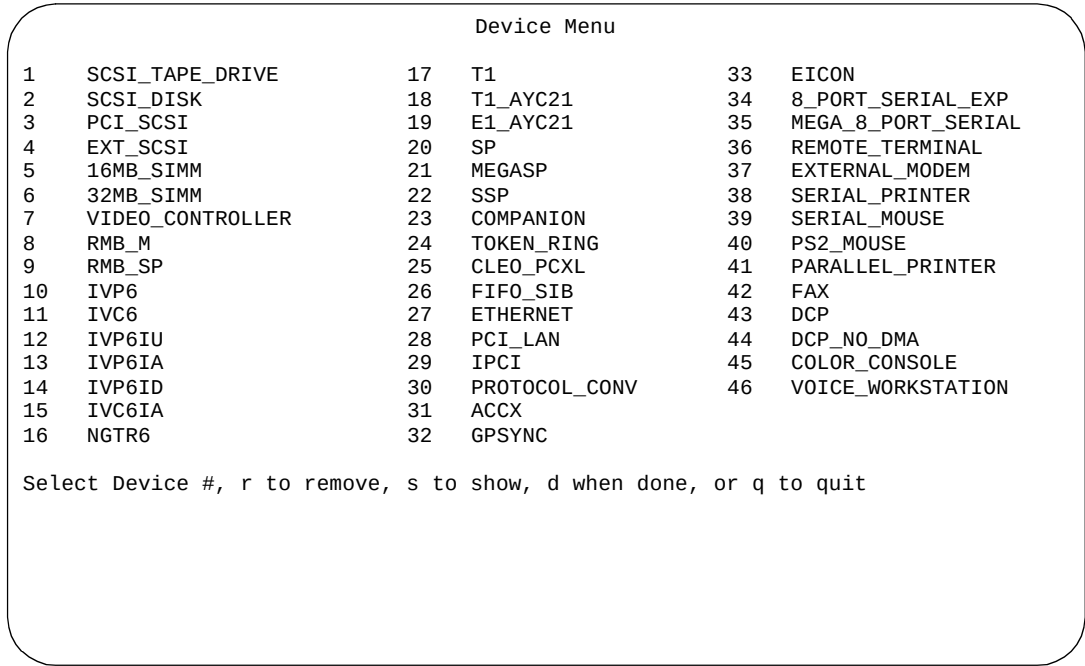

Figure A-7. Device Menu screen
The system displays the Device Menu screen (Figure A-7).
- The system displays the Device Menu screen (Figure A-7).